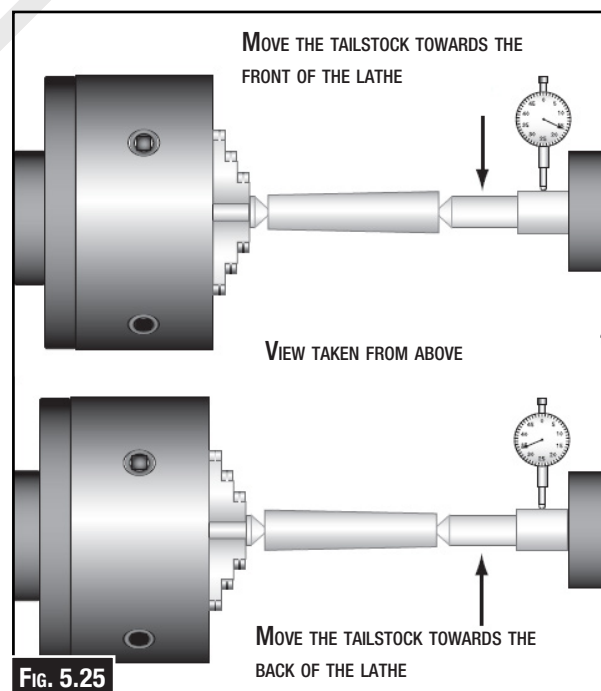

FIG. 5.25
6. Mount a test or dial indicator so that the plunger is on the tailstock quill and set the dial to "0". (Fig. 5.25)